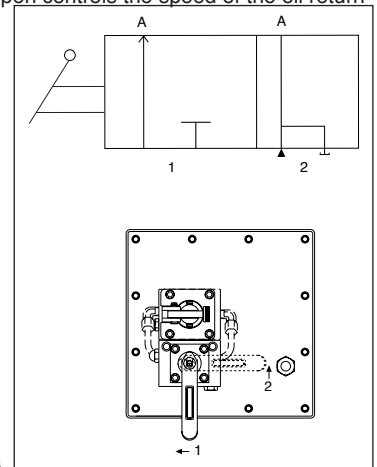

Figure 2
1. Shift valve handle to position 2 as shown in Figure 2.
3. To allow oil to return to the reservoir, shift valve handle to position 1 in Figure 2. Slowly open release valve to release the pressure and control the flow of oil back to the reservoir. The amount the release valve is open controls the speed of the oil returning to the pump and the speed cylinders moving down under live loads.